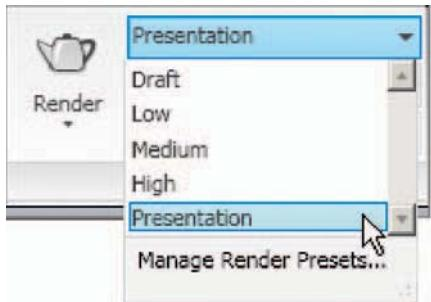

Fig. 15.36 Setting the form of rendering to **Presentation**
6. Select **Presentation** from the **Render Presets** menu in the sub **Render/ Render** panel (Fig. 15.36).